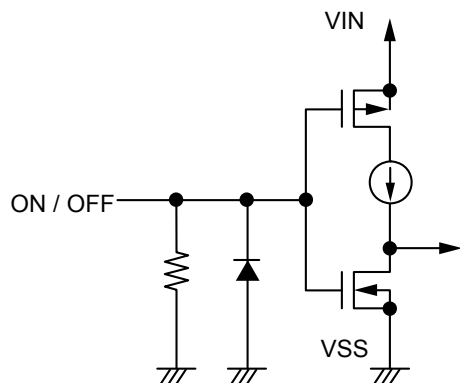

Figure 30 S-13A1 Series A / C type
When the ON / OFF pin is set to OFF level, the entire internal circuit stops operating, and the built-in P-channel MOS FET output transistor between the VIN pin and the VOUT pin is turned off, reducing current consumption significantly. Note that the current consumption increases when a voltage of 0.3 V to $V_{IN} - 0.3$ V is applied to the ON / OFF pin. The ON / OFF pin is configured as shown in **Figure 30** and **Figure 31**.
*1. Note that the IC's current consumption increases as much as current flows into the pull-down resistor of 2.5 M Ω typ. when the ON / OFF pin is connected to the VIN pin and the S-13A1 Series A / C type is operating (refer to **Figure 30**).